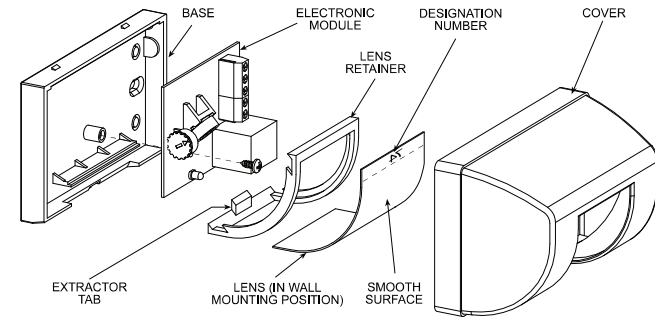

Figure 9. DA-5 Exploded View
(74) is engraved on the inner grooved surface of the lens near the top rim (see Figure 9).